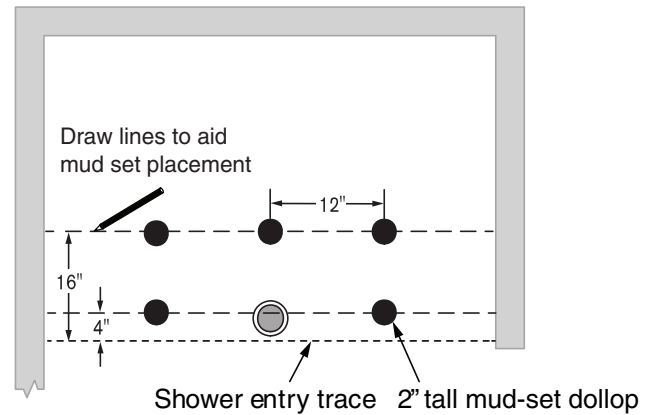

Figure 9
- 5 Sweep the subfloor and remove all debris from the pocket area and under the shower pan so the mud-set will adhere properly. Figure 9 shows the required mud-set pattern for installation.